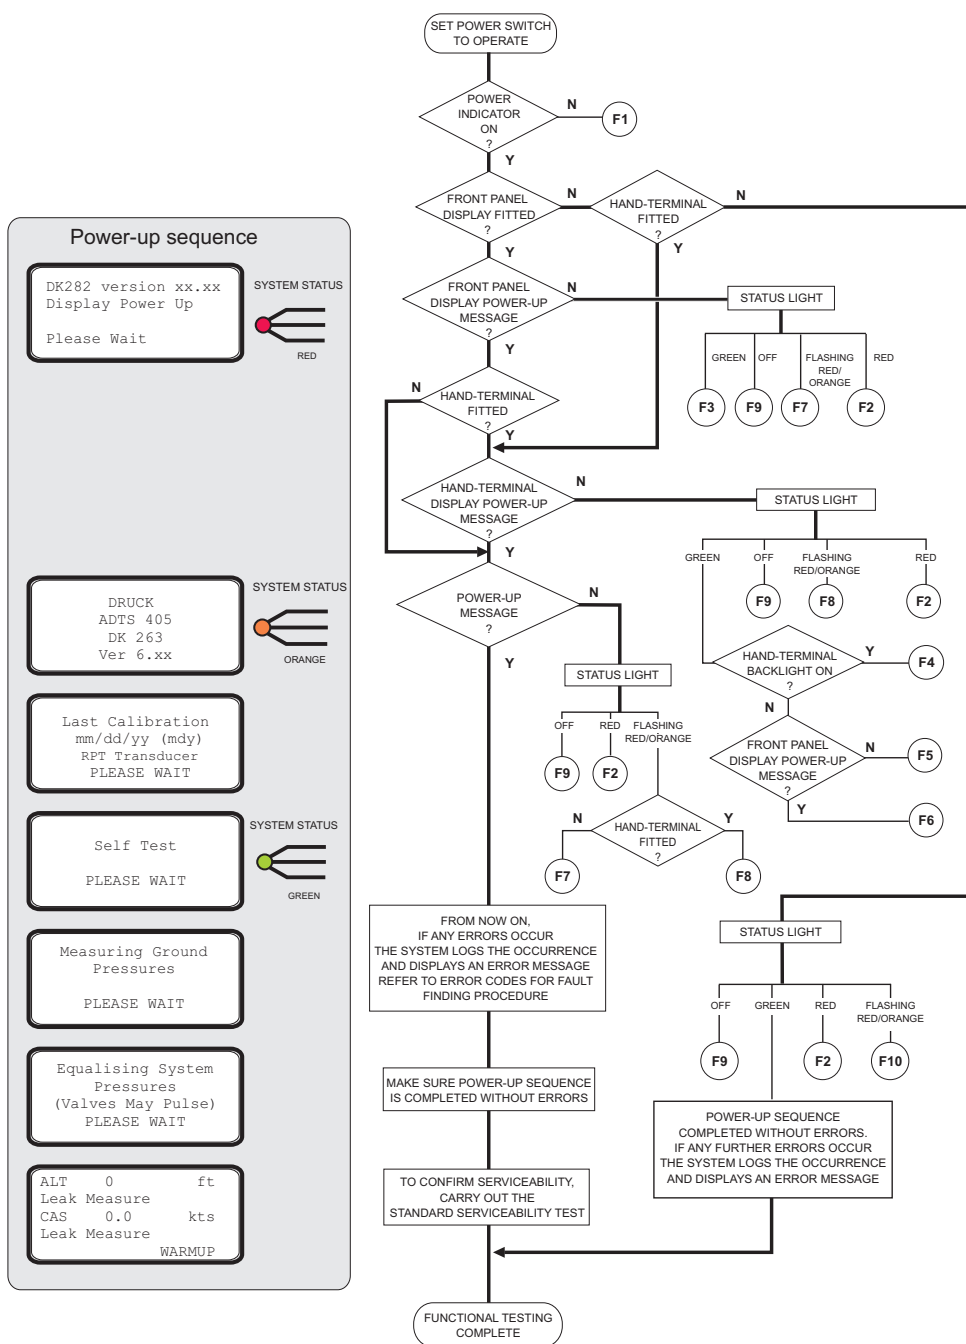

FIGURE 5-1 FAULT FINDING CHART
- If a fault occurs, refer to the fault location chart, Figure 5-1 and Table 5-1 for possible fault causes and recommended action.